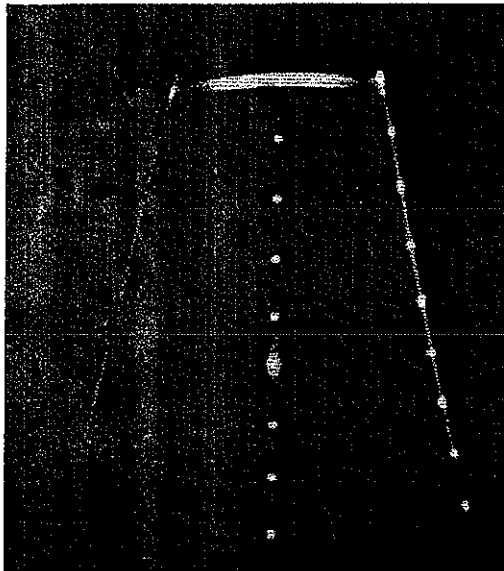

Figure 1 – Probe is Aligned.
8. The depth markers should line up with the bright dot of the needle tip as in Figure 1.